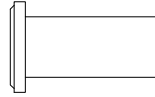

FIG.3.
- Secure with Allenkey (N).
- See FIG.3. for height adjustment.
- Make sure the Mattress Spring (E) is leveled after assembly.
- Attach the Allenbolt 1"(25mm) (K), Spring Washer (W) and Nut 3/4"(20 mm) (L) on the lowest hole of Sideboard.
- Final position as shown in FIG.3.